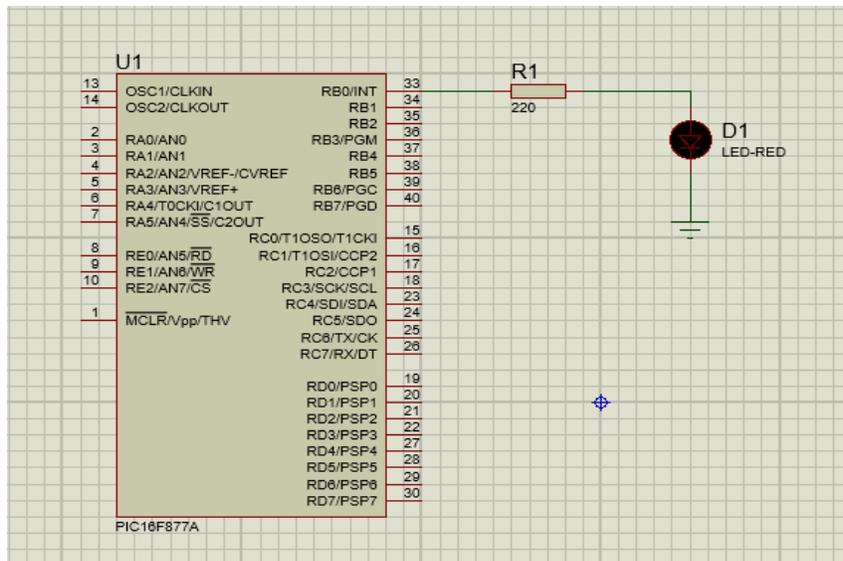

Figure-12
4) As seen in the **Figure-12**, circuit for the simulation of assembly code in the previous part is constructed. GND object has been taken from "Terminals Mode" part. It is important to mention that, OSC pins and MCLR pin are left floating. In the simulation, there is no need to add them however, they should be also used while constructing on breadboard or PCB.